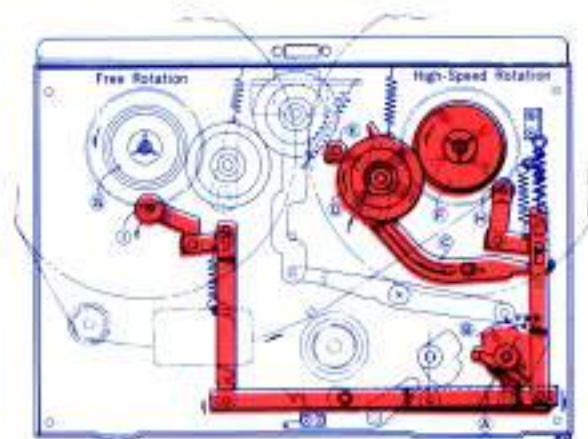

Fig. 3
Turning the *FAST FWD-REWIND LEVER* (A) to "FAST FWD" position, causes *cam* (B) under the knob to push up *Lever* (C). *Idler* (D) moves into the space between *Plastic Roller* (F) above the *Take-Up Reel Spindle* and the upper part of the rotating *motor drive bushing* to transmit the motor rotation to the take-up reel spindle. At the same time, *Brake Rollers* (H) and (I) come off the reel spindle to free *Supply Reel Spindles* (G) and (F), thereby allowing fast winding of the tape onto the take-up reel. (See figure 3)